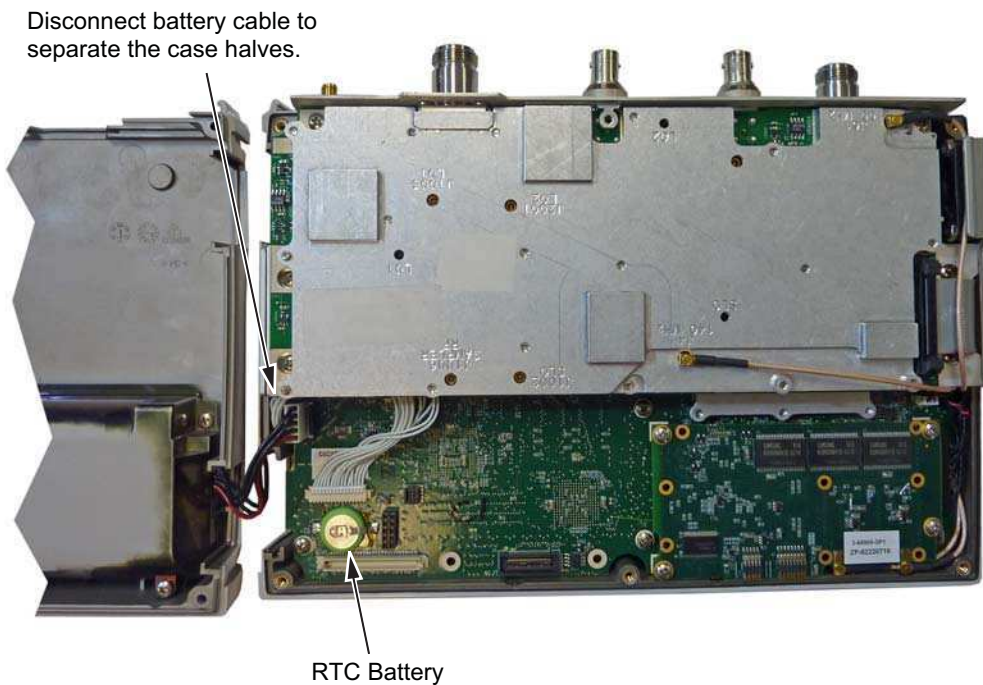

Figure 7-3. Site Master Opened 180 Degrees
6. Lay the Site Master flat and remove the battery connector cable between the two halves (Figure 7-3).